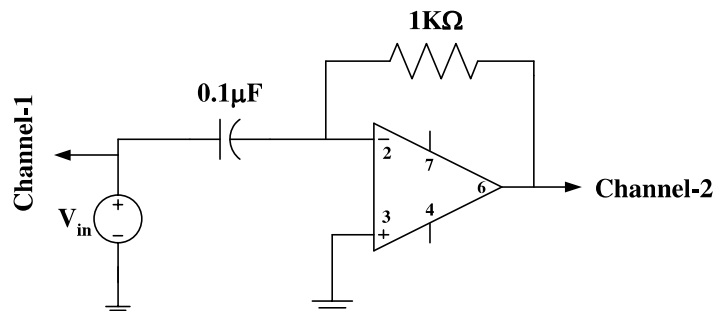

Figure 2. An Op-Amp differentiator circuit.
2. DIFFERENTIATOR: Consider the differentiator shown in Figure 2 with $v_{in} = V_p \sin(\omega t)$. If the circuit is initially relaxed, find the expression of output and determine the frequency, f , at which the output amplitude is equal to $V_p / 2$. Also, determine the phase relation between input and output.
5. Connect the circuit as shown in Figure 2. Use a +5V DC power supply to terminal 7 and -5V DC power supply to terminal 4 of the Op-Amp.
6. Simulate the differentiator of Figure 2 for 4 cycles using PSpice with the measured value of R and the triangular wave input that you have used in the lab and have the simulation result printed. Compare the simulation result with your measurement.